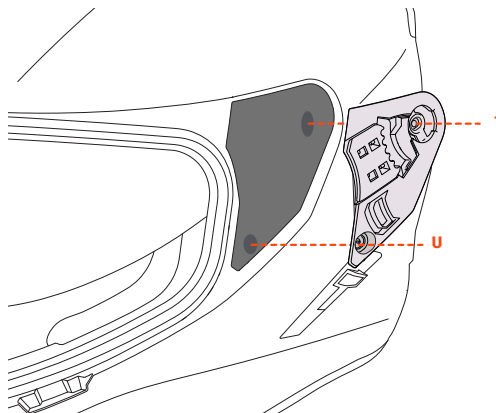

FIGURE 16
**■ VISOR MECHANISM – Figure 16**